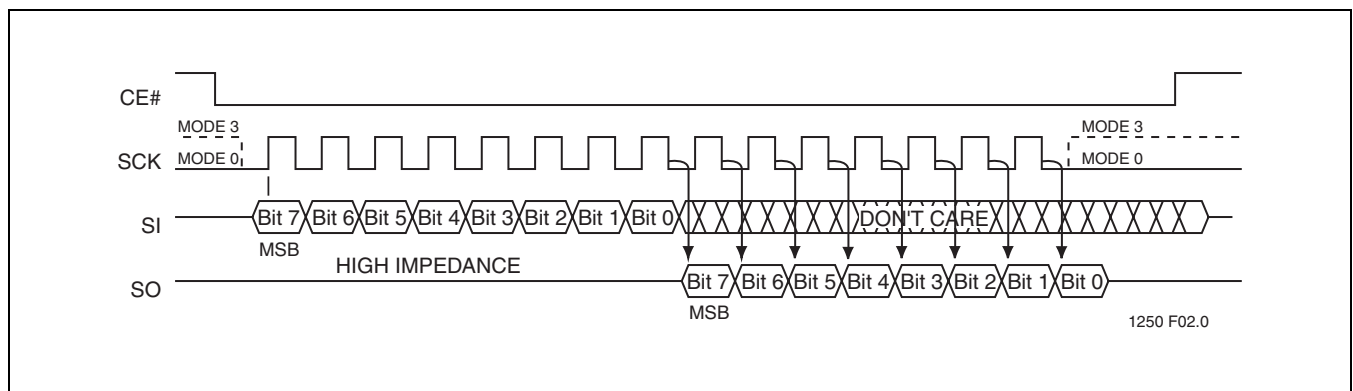

FIGURE 2: SPI PROTOCOL
The SST25VF080 supports both Mode 0 (0,0) and Mode 3 (1,1) of SPI bus operations. The difference between the two modes, as shown in Figure 2, is the state of the SCK signal when the bus master is in Stand-by mode and no data is being transferred. The SCK signal is low for Mode 0 and SCK signal is high for Mode 3. For both modes, the Serial Data In (SI) is sampled at the rising edge of the SCK clock signal and the Serial Data Output (SO) is driven after the falling edge of the SCK clock signal.